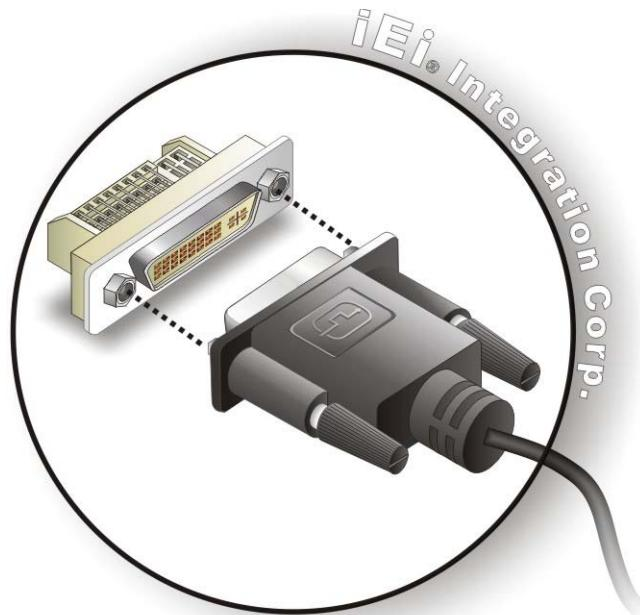

Figure 4-19: DVI Connector
Step 3: Insert the DVI-I connector Once the connectors are properly aligned with the male connector, insert the male connector from the digital display device into the female connector on the IMBA-Q870-i2. See Figure 4-19.